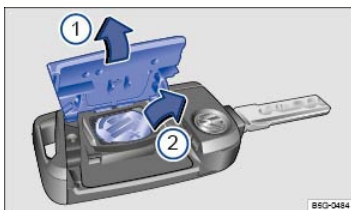

Fig. 52 Remote control vehicle key: Opening the battery compartment cover and removing the old battery.
The battery is in the back of the remote control vehicle key under a cover ⇒ Fig. 52①.
Key to ⇒ Fig. 52 :
- Remove the cover on the back of the remote control vehicle key ⇒ Fig. 52① in the direction of the arrow using a suitable object such as a coin ⇒ ①. This action may require some force.
- Use a thin object to pry the battery out of the battery compartment ⇒ Fig. 52②.
- Position the new battery with the + side facing up and press the battery carefully into the battery compartment (opposite direction of the arrow) ⇒ ①.